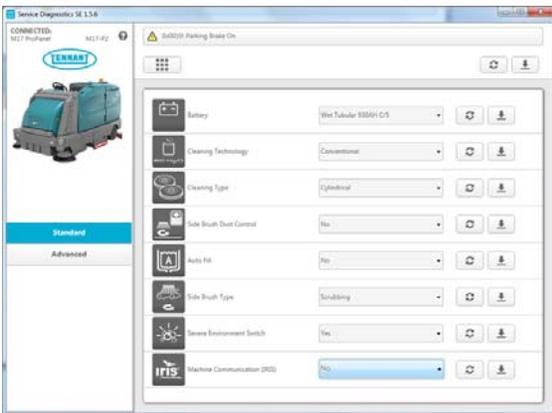

FIG. 25
13. Correct the installed options. (Fig. 25)
14. Press the down arrow button to program the machine. A green check appears next to the down arrow button when programmed. (Fig. 25)